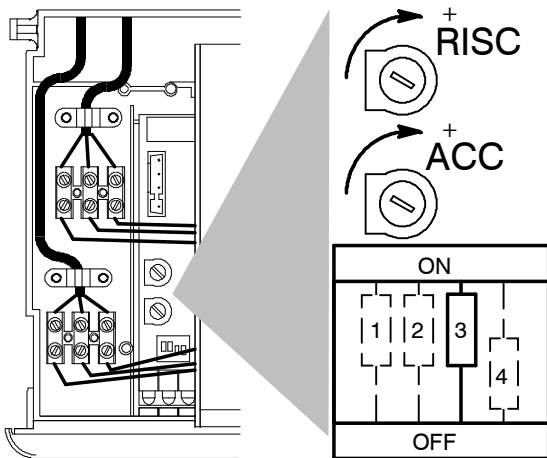
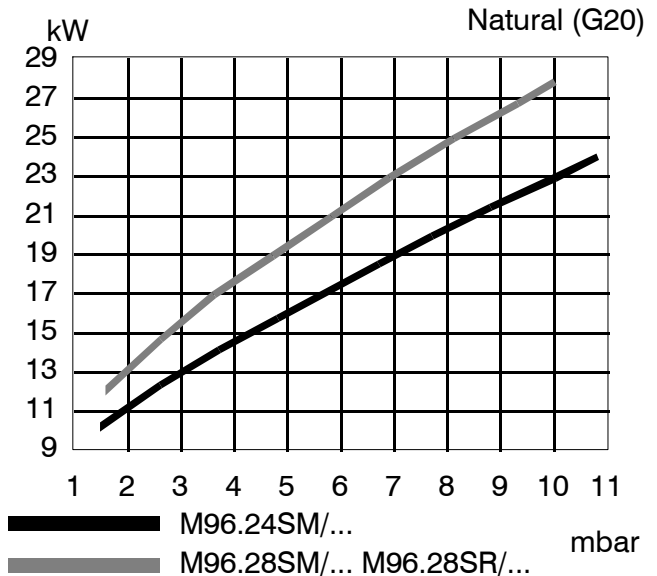
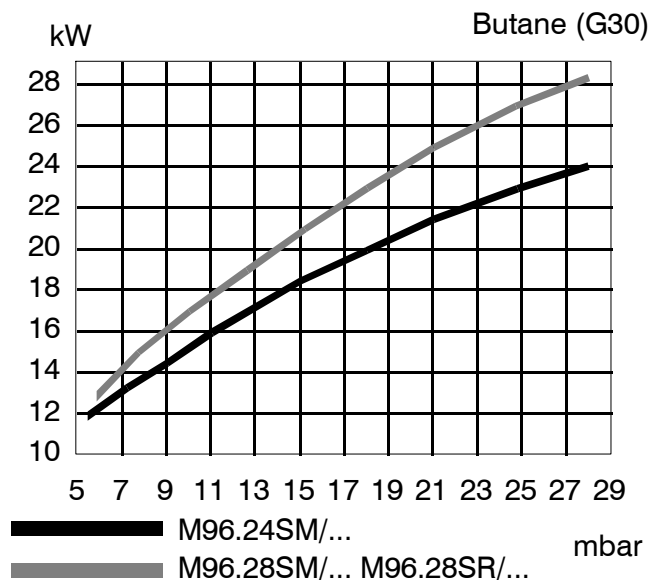
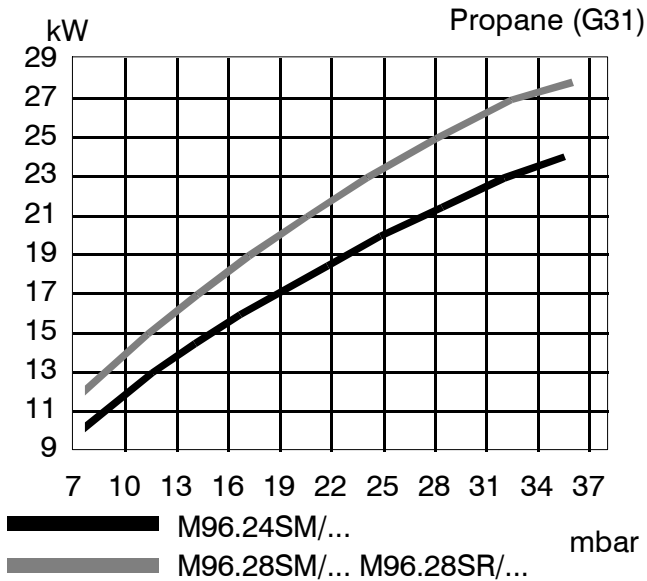

Fig. 7.8
Fig. 7.9
Fig. 7.10
Fig. 7.11
- 14 Check the ignition gas pressure by setting dip-switch "3" (Fig. 7.8) to the OFF position. Compare the value on the gauge with the value indicated in the sections 4.6 or 4.7 (gas pressures at the burner), accordingly with the model of boiler installed.
To adjust the ignition gas pressure, set dip-switch "3" (Fig. 7.8) to the OFF position and adjust potentiometer marked "ACC" with a screwdriver until correct ignition gas pressure is obtained.
Refer to the diagrams shown in Fig. 7.9, Fig. 7.10 or Fig. 7.11 and select the correct central heating output gas pressure to meet with the central heating system requirements.
With the boiler operating in c.h. mode, use a suitable screwdriver to turn the adjustment potentiometer marked "RISC" (Fig. 7.8). Rotating the potentiometer anti-clockwise reduces the maximum supply current to the gas modulator device, and thus reduces the gas pressure to the burner in accordance with Fig. 7.9, Fig. 7.10 or Fig. 7.11.